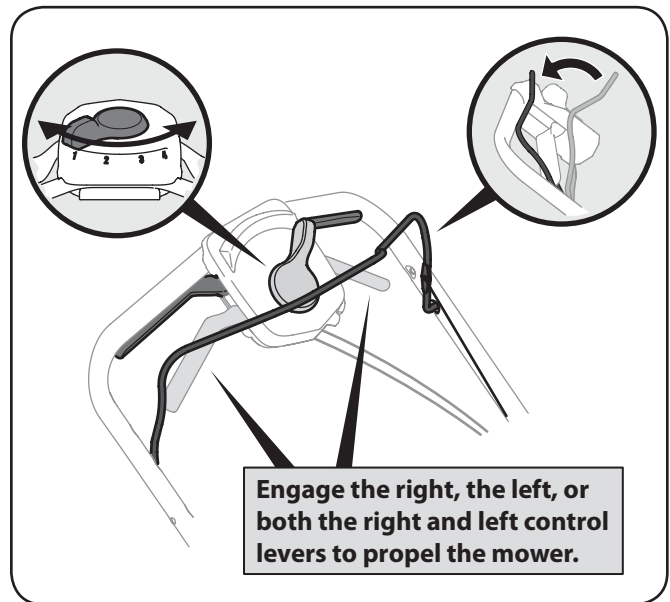

Figure 5-2
1. Once the engine is running and while continuing to hold the blade control down, squeeze either (or both) drive controls against the upper handle to propel mower. See Fig. 5-2.